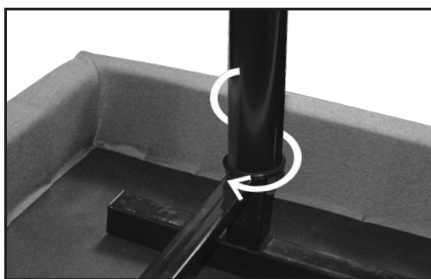

Figure 1
Install (C) six legs firmly into the base of the frame. The legs screw into the threaded holes in each corner of the frame. (*See Figure 1.*) Do not overtighten.